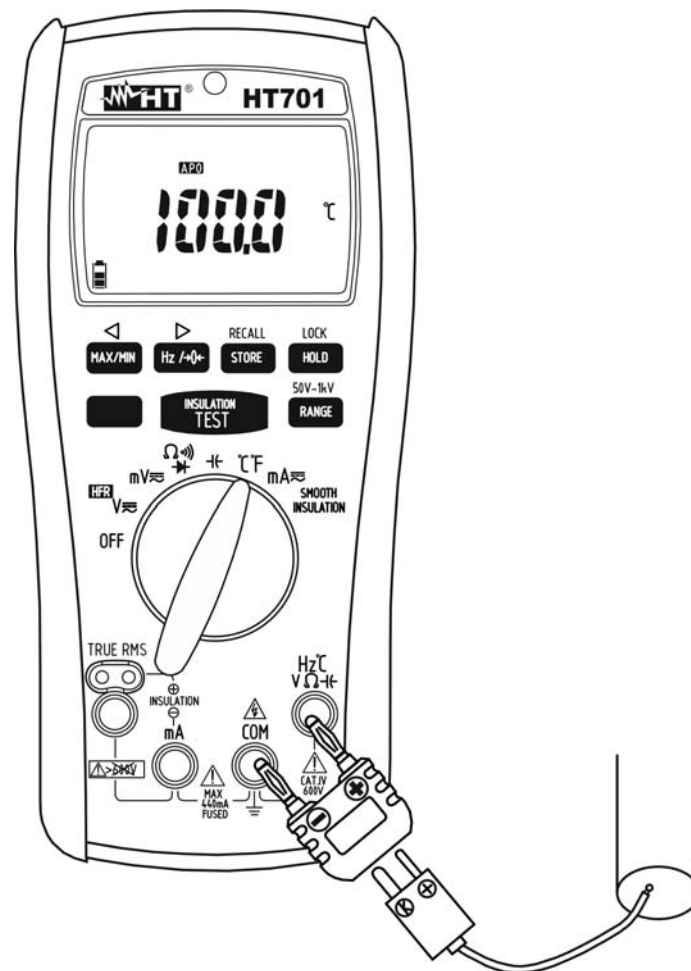

Fig. 9: Use of the instrument for Temperature measurement
3. Insert the provided adapter into the input terminals **Hz °C V Ω Hz** and **COM**, respecting the red and black colours found on it (see Fig. 9)